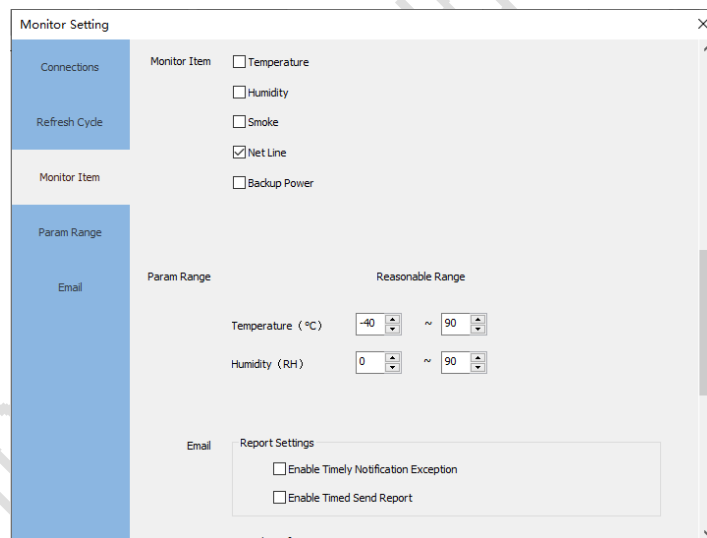

Fig 10.2 Set monitor item
Step 2: Click the **Setting** button to open the **Monitor Setting** dialog box. Configure the settings for **Monitor Item**, **Param Range** and **Email**, as shown in Figure 10.2.